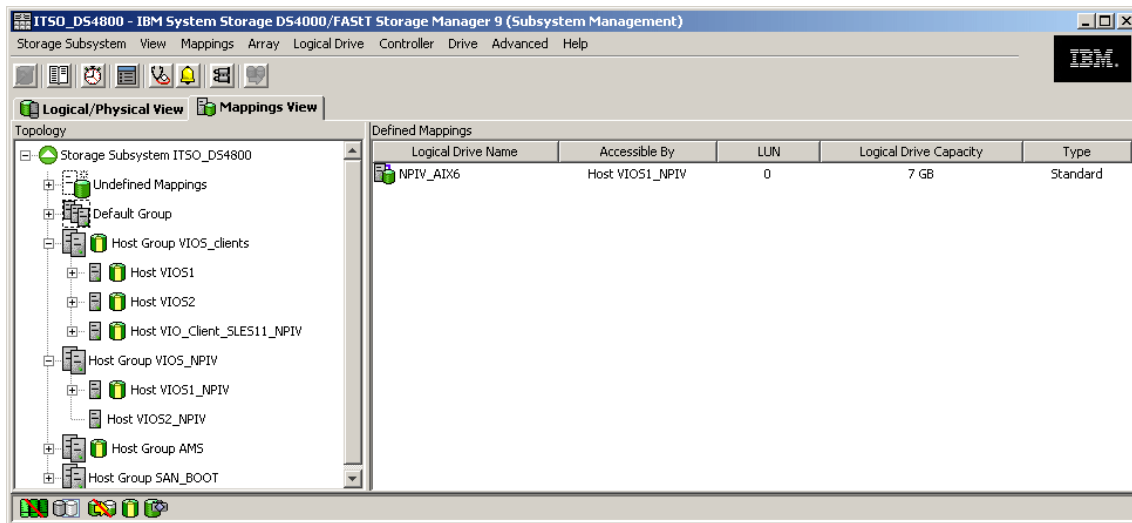

Figure 2-42 LUN mapped to a physical Fibre Channel adapter
1. Example 2-43 shows that in the NPIV partition a physical Fibre Channel adapter with two ports is assigned. A LUN is mapped to this physical Fibre Channel adapter within the IBM DS4800 storage system, as shown in Figure 2-42 on page 94. There is one path available to `hdisk0`.